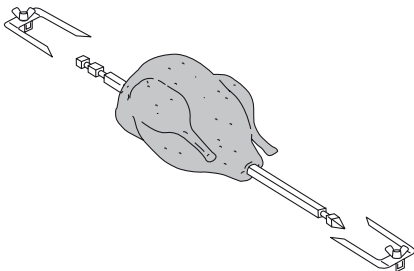

fig. 1
- First insert the rotisserie spit into the food for rotisserie (Fig. 1).